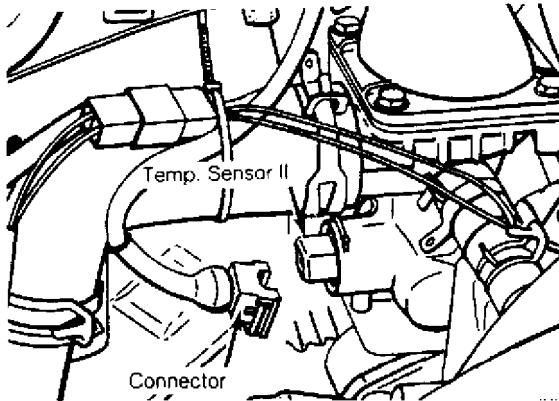

Fig. 2: Coolant Temperature Sensor (Vanagon)
2) Start and run engine at idle. Disconnect electrical connector at coolant temperature sensor. See Fig. 2. Raise engine speed to specification and check and/or adjust ignition timing.